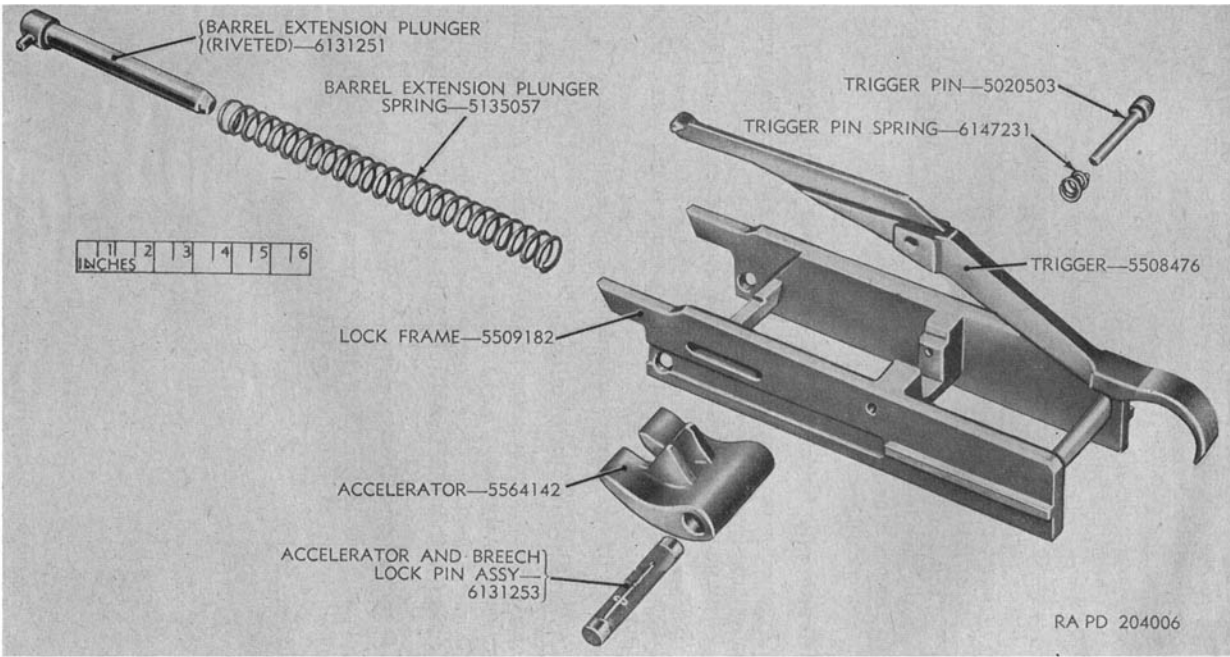

Figure 23. Lock frame group—exploded view.
- (2) Inspect the trigger pin spring (fig. 23) to see that it is not kinked or deformed and is functioning properly.
- (1) Inspect the barrel extension plunger spring (fig. 23) to see that it is not kinked or deformed.
- (2) Test the function of the barrel extension plunger and note the free length of the barrel plunger spring. If length of spring differs by more than one-quarter of an inch from 3.56 inches, it should be replaced.